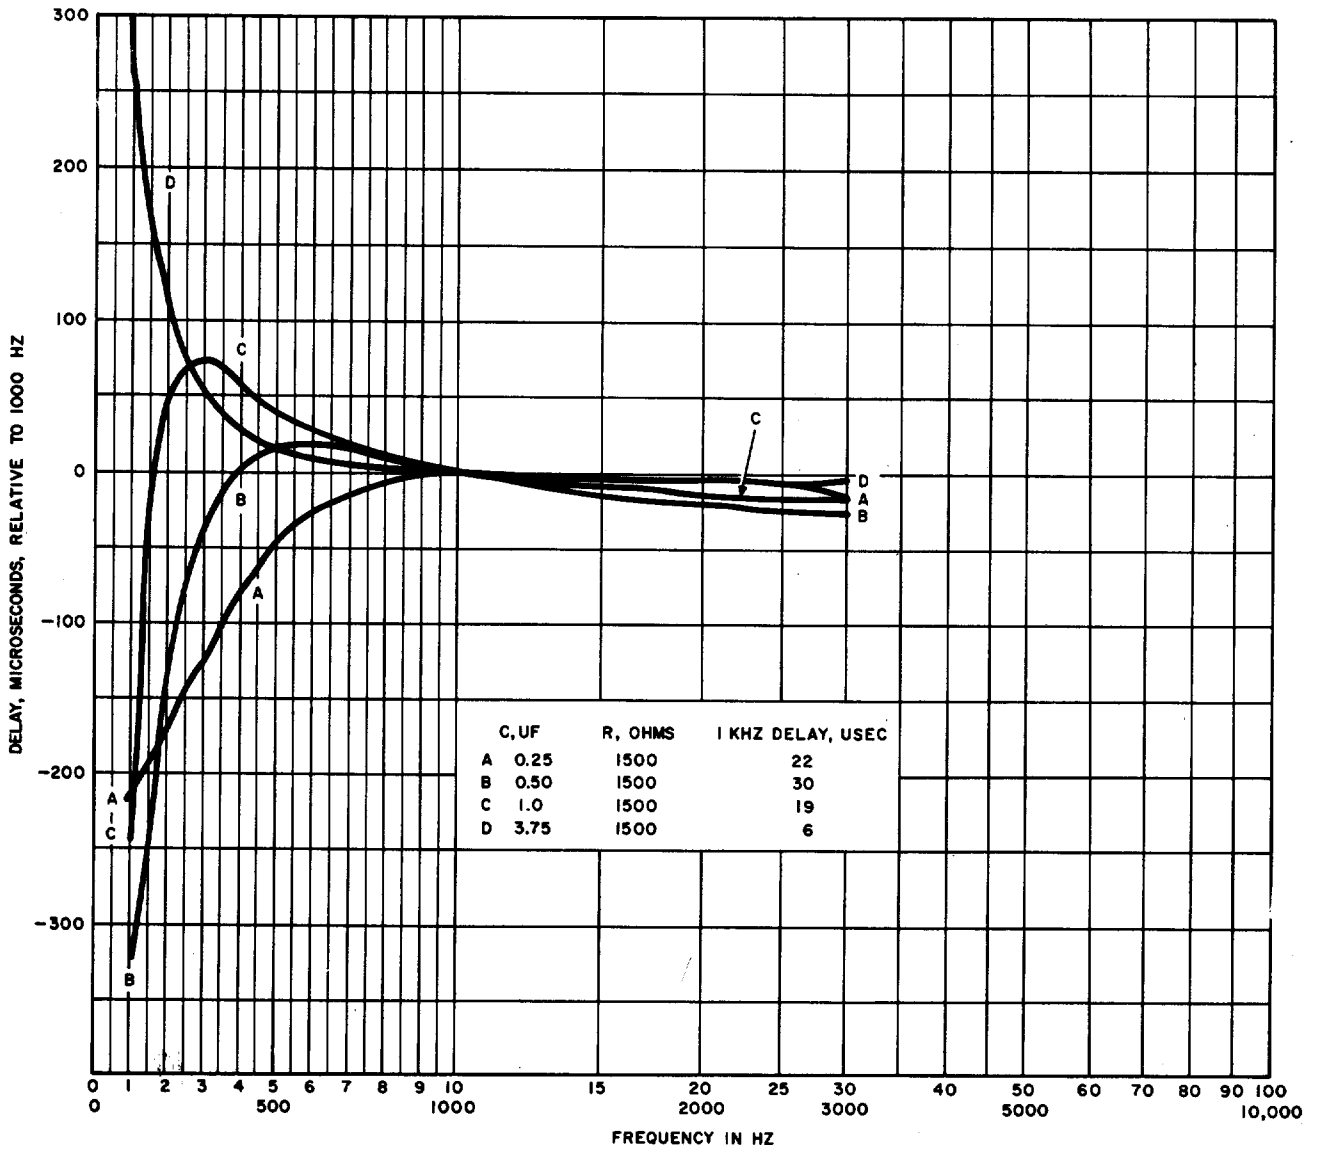

Fig. 7—359K Equalizer—Delay-Frequency Characteristics—Between 600 Ohms—
**3.06** While the equalizer components provide compensation for amplitude distortion, they introduce delay distortion at the same time. Figures 6 and 7 illustrate typical delay-frequency characteristics obtained from various combinations of R and C. Figure 6 shows the results of keeping C constant at 0.25  $\mu\text{F}$  and varying R; Fig. 7 shows the results of keeping R constant at 1500 ohms and varying C.